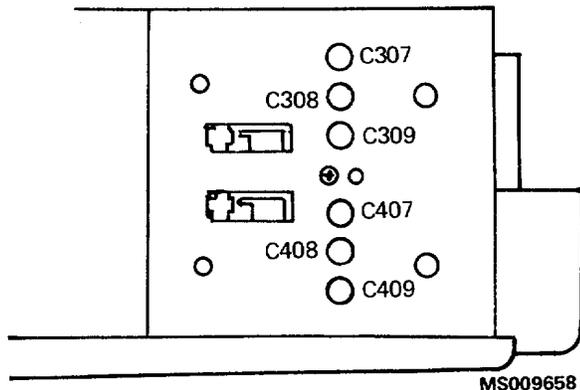

Figure 4-4. Location of attenuator compensation capacitors.
- f. ADJUST-C407 (see Fig. 4-4) for no more than +0.2 division, -0.1 division, or a total of 0.2 division of aberration. (Use a low-capacitance screwdriver.)
- i. ADJUST-C408 (see Fig. 4-4) for no more than +0.2 division, -0.1 division, or a total of 0.2 division of aberration.
- l. ADJUST-C409 (see Fig. 4-4) for no more than +0.2 division, -0.1 division, or a total of 0.2 division of aberration.
- f. ADJUST-C307 (see Fig. 4-4) for no more than +0.2 division, -0.1 division, or a total of 0.2 division of aberration.
- i. ADJUST-C308 (see Fig. 4-4) for no more than +0.2 division, -0.1 division, or a total of 0.2 division of aberration.
- l. ADJUST-C309 (see Fig. 4-4) for no more than +0.2 division, -0.1 division, or a total of 0.2 division of aberration.